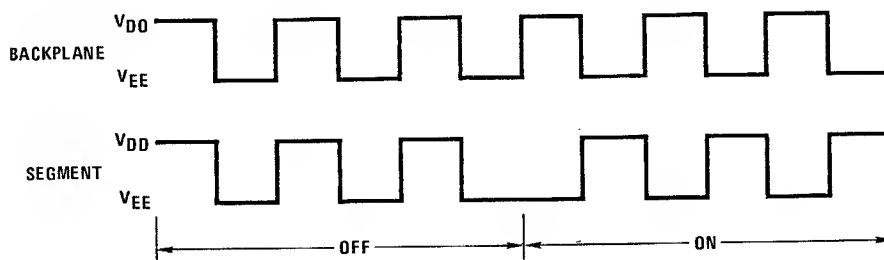

FIGURE 8. Phase Drive Signals
**Segment Outputs:** The Segment outputs are designed to drive field-effect liquid crystal displays. Each display segment has its own output which supplies the proper 32 Hz drive signal. By definition, the segment is "OFF" when its drive signal is in phase with the Back Plane drive signal (BP/32 Hz) and the segment is "ON" when the drive signal is 180° out of phase with the Back Plane drive signal (refer to Figure 8).